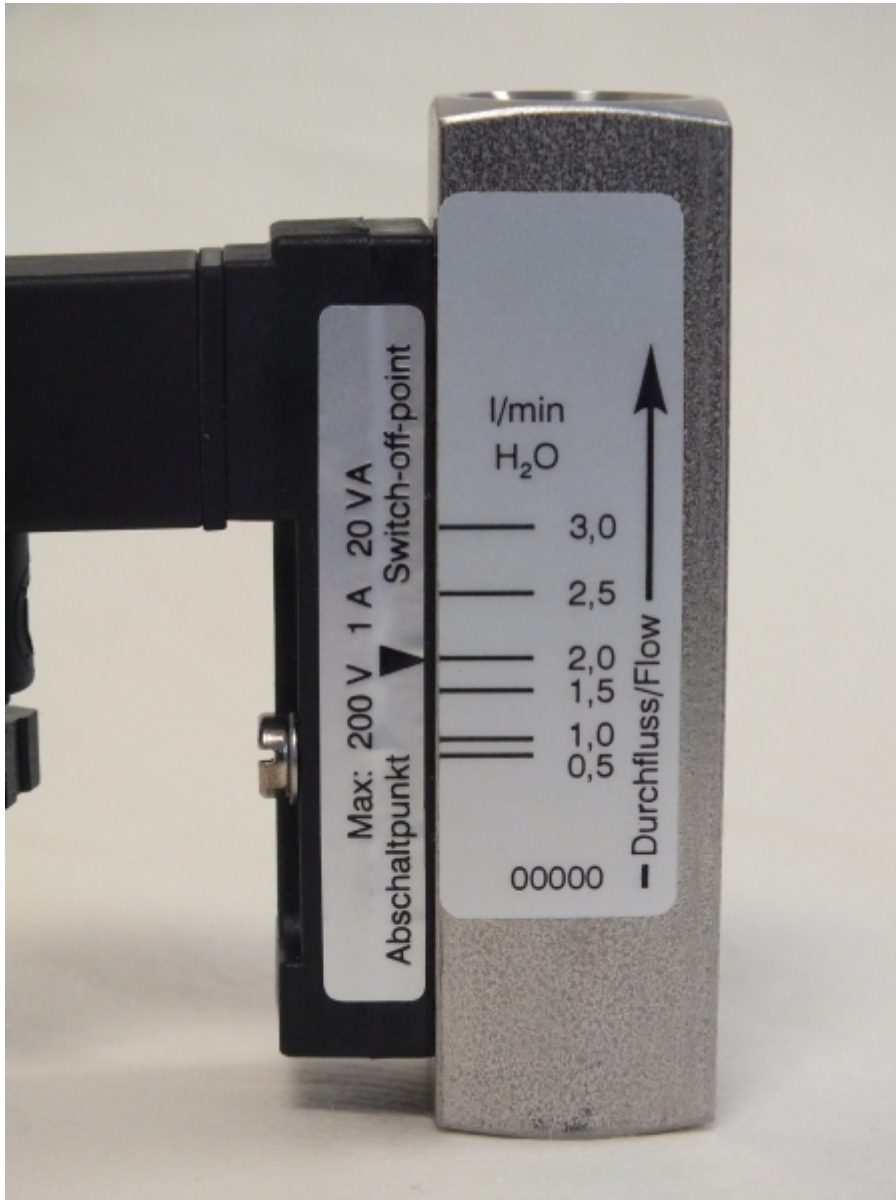

Fig. 33: Reading-off the flow value (example scale)
- 1.** ➤ Make sure that the setting arrow and the scale mark of the scale on the device body are in alignment. (Fig. 33).